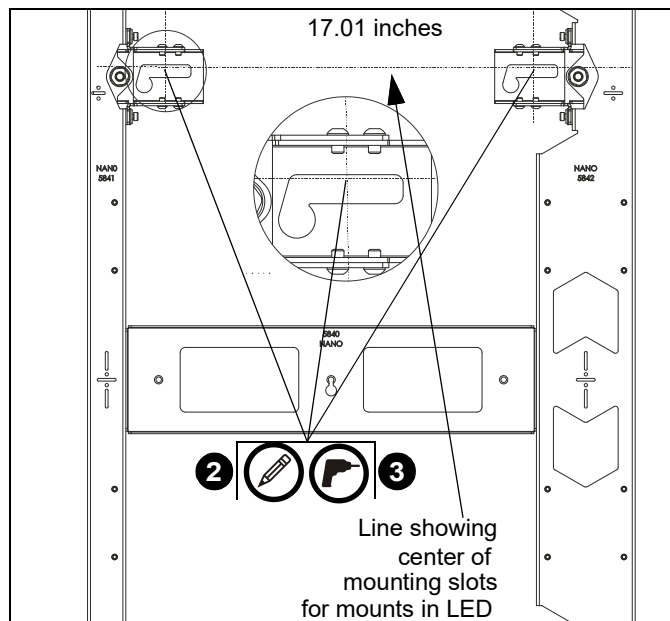

Figure 8
1. Hold furthest left wall mount against wall ensuring that mounting slot is lined up with center line marked on the wall in **Determining Installation Site** section. Double-check with a level. (See Figure 8)
2. Mark mounting holes near top or mounting slots along the horizontal line. (See Figure 8)
3. The mounting holes are 17.01" apart on-center for left and middle and 23.62" for middle and middle and 21.96" for middle and right. (See Figure 8)
4. Drill two pilot holes (see Table 1 for size) at each location marked in Step 2 (See Figure 8) and follow fastener information located in Table 1.